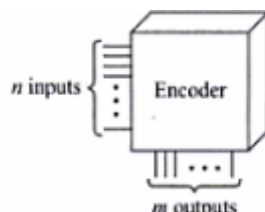

Figure: 4.24: Encoders
- The switches are push-button switches like those of a pocket calculator (Figure: 4.24).